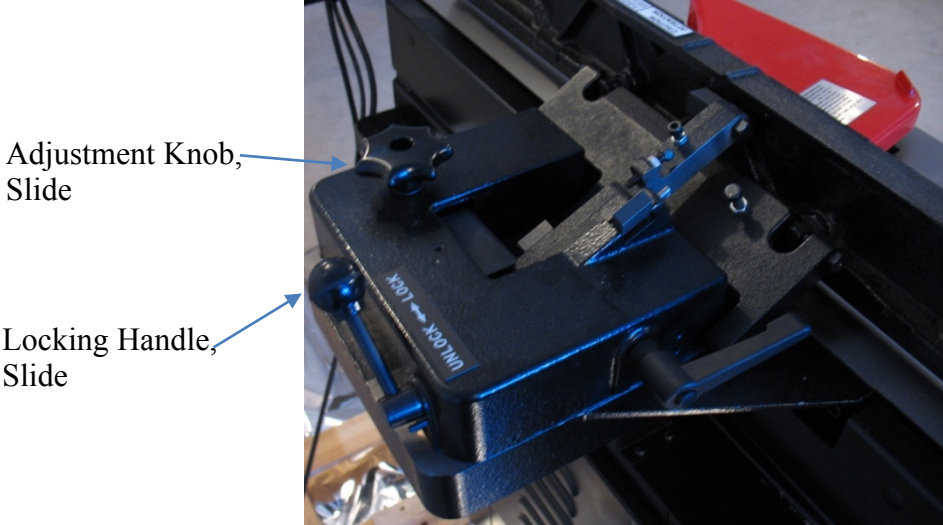

Figure 9: Fence Slide Components
3. The fence can be adjusted to use all or a portion of the cutterhead. To adjust, loosen the Locking Handle (Fig. 9) and turn the Adjustment Knob to position fence in desired location.